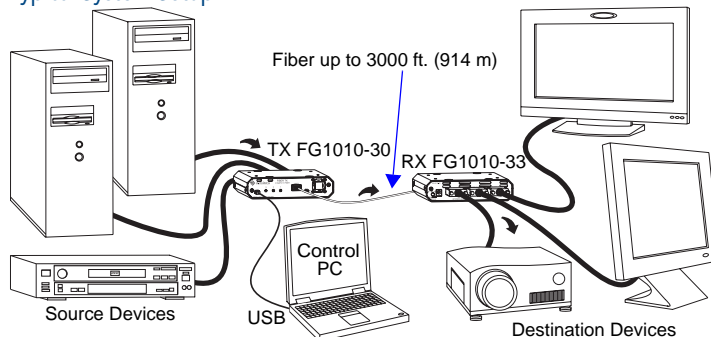

FIG. 2 Typical system setup (USB connection to PC for setup only)
DG (Digital Generation) RGBHV MTP® Fiber Transmitter (TX) and Receiver (RX) Modules work together (FIG. 2) or in conjunction with fiber boards on an AMX AutoPatch Distribution Matrix. This guide contains complete information for stand-alone use. For use with a distribution matrix, see the distribution matrix's instruction manual on the AMX AutoPatch Software & Documentation CD or visit [www.amx.com](http://www.amx.com).